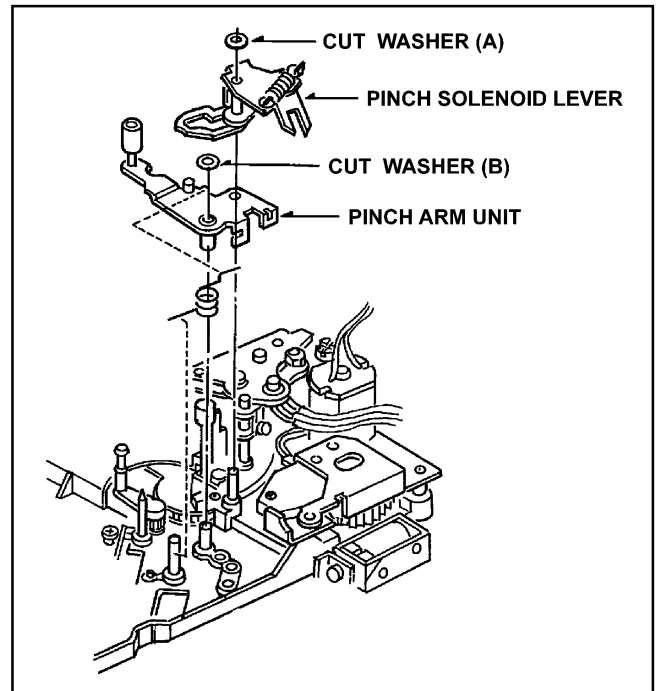

Figure 5-9
2. Remove the cut washer (A) and remove the Pinch Solenoid Lever as shown in Figure 5-9.
3. Remove the cut washer (B) and remove the Pinch Arm Unit as shown in Figure 5-9.